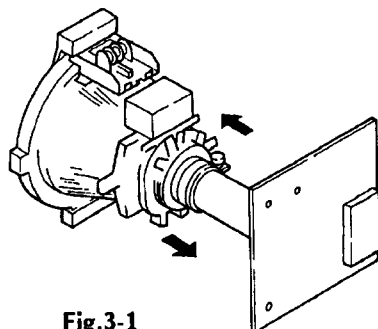

Fig.3-1
(Fig.3-1 - 3-3)
4. Move the deflection yoke forward, and adjust so that the entire screen becomes red. (Fig.3-1)